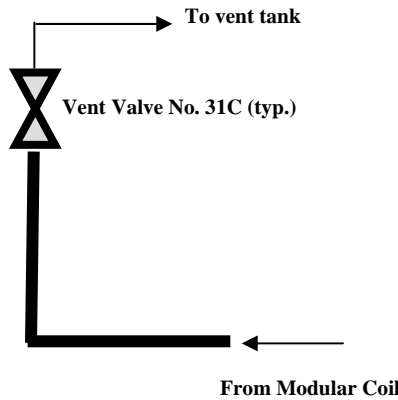

Figure 8-Typical Zone 3 Valve Assembly
- Continue flowing epoxy into the coil via the Zone 1 and 2 valves until epoxy is observed exiting each of the Zone 3 (Exit) valves [36 thru 47]. Figure 8-Typical Zone 3 Valve Assembly. **Close** each Zone 3 exit valve once epoxy reaches the control panel.